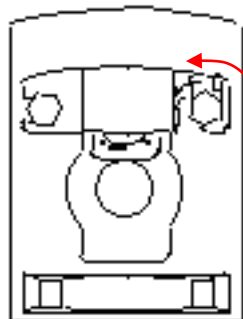

Figure 13.
7. Rotate the knife holder latch counterclockwise until the knife holder is locked in place. See Figure 13.